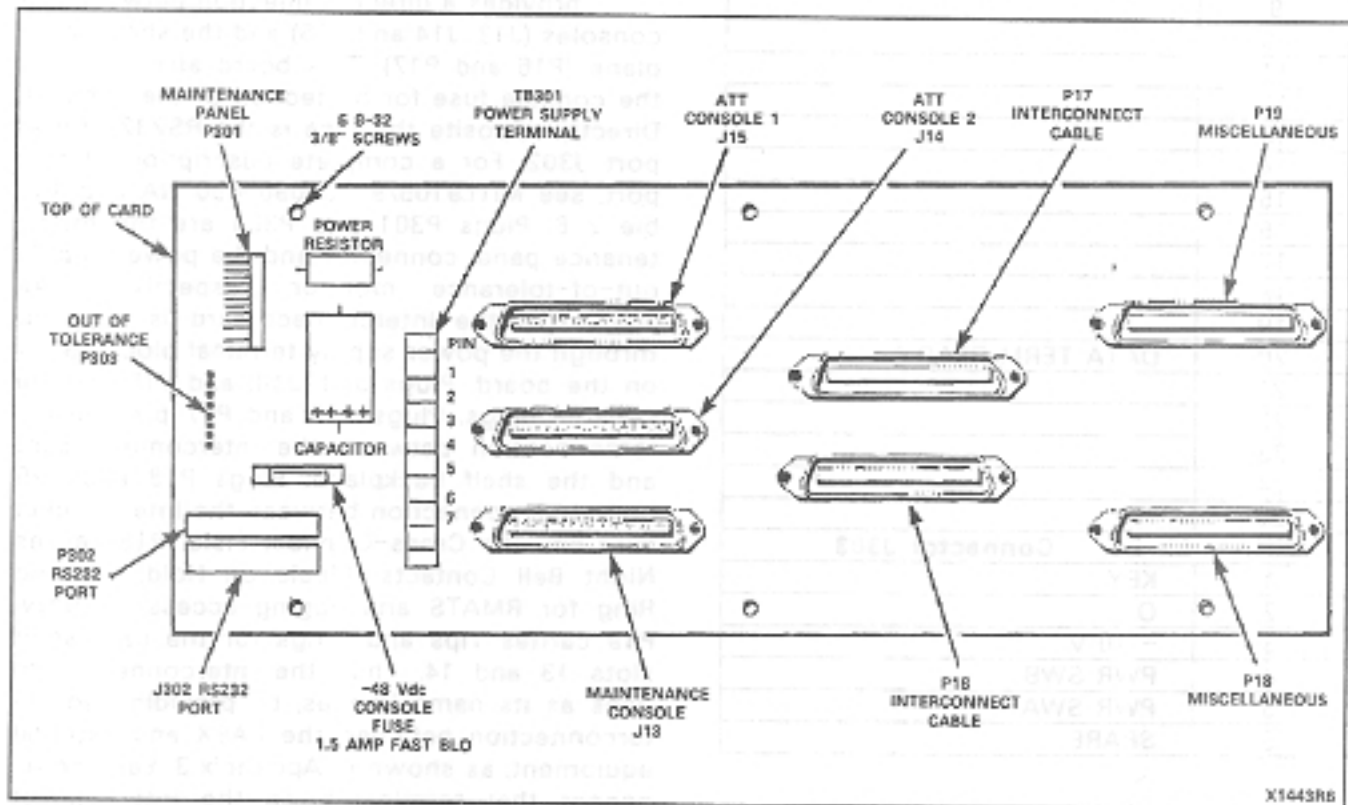

Fig. 2-5 SX-200 Interconnect Card
2.21 The SX-200 Interconnect Card (Fig. 2-5) provides a direct connection between the consoles (J13, J14 and J15) and the shelf backplane (P16 and P17). This board also contains the console fuse for protection of the console. Directly opposite the fuse is the RS232 printer port J302. For a complete description of this port, see MITL9105/9110-096-450-NA and Table 2-6. Plugs P301 and P303 are the maintenance panel connector and the power supply out-of-tolerance monitor, respectively. All power for the Interconnect card is supplied through the power supply terminal block TB301 on the board. Plugs J13, J14, and J15 are the console plugs. Plugs P16 and P17 provide interconnection between the Interconnect card and the shelf backplane. Plugs P18 and P19 provide a connection between the Interconnect card and the Cross-Connect Field. P18 carries Night Bell Contacts, Music on Hold, Tip and Ring for RMATS and Paging access circuitry. P19 carries Tips and Rings for the card shelf slots 13 and 14. Thus the Interconnect card does as its name implies, by providing an interconnection between the PABX and external equipment, as shown in Appendix 3. Each component that terminates on the Interconnect card is listed in Table 2-7.